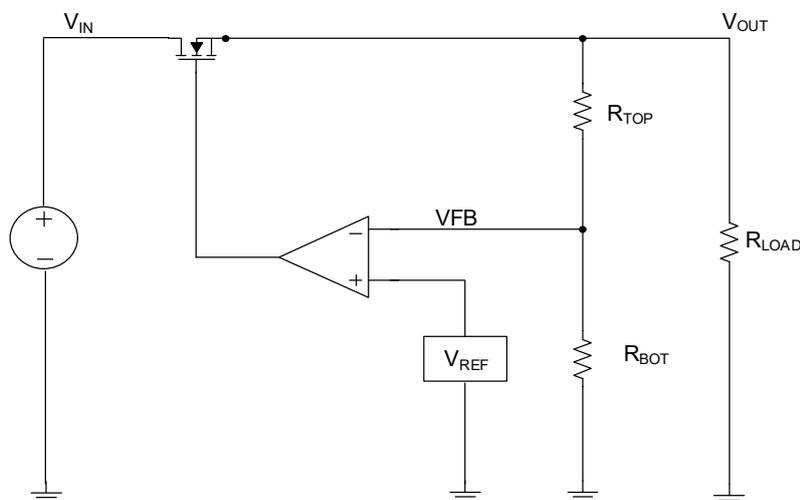

Figure 42. Simple NMOS LDO Regulator Block Diagram
Like the majority of LDOs with an NMOS pass transistor, the RAA214045 output voltage (V_{OUT}) regulation can be modeled with a voltage reference (V_{REF}), feedback (FB) resistors, error amplifier, and an NMOS pass-transistor as shown in Figure 42.